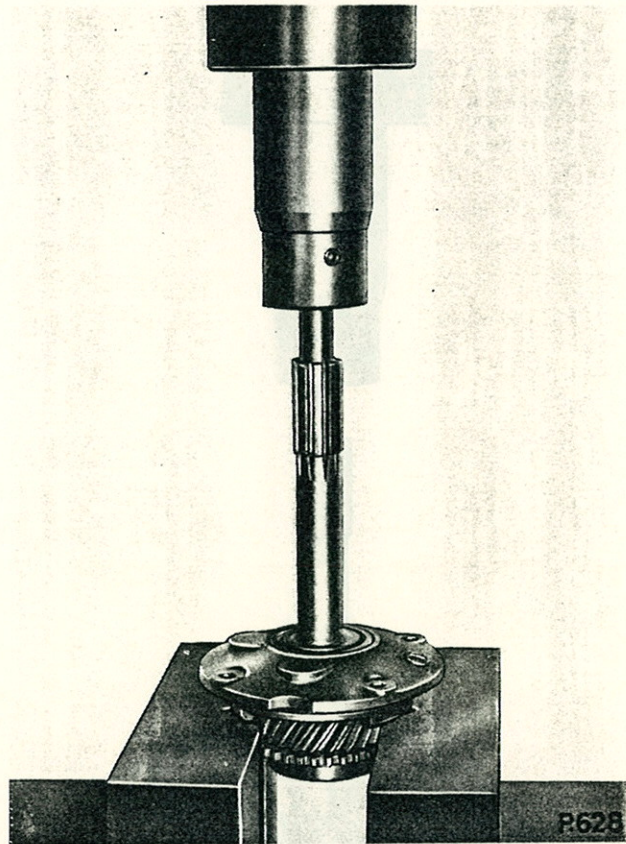

Fig. E.10. Pressing the primary shaft complete with the bearing out of the front cover
- (b) Press the primary shaft assembly, complete with bearing out of the front cover (see Fig. E.10).